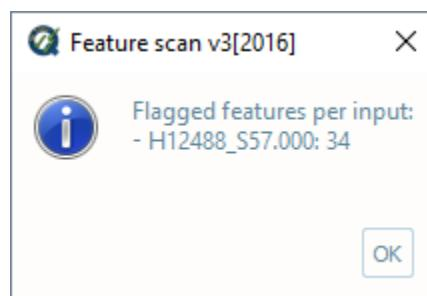

Fig. 2.65: Feature scan's output message.
- After computing, the output window opens automatically, and the results are shown (Fig. 2.65).